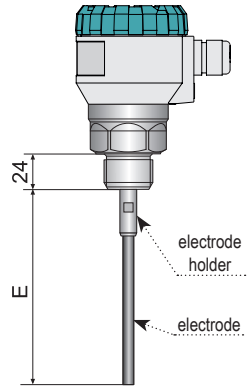

Fig. 27: Drawing of the level meter with size "E"
1. Create your own electrode as shown on Fig. 27 The length of the electrode must be about 7 mm shorter than the dimension "E" in figure 27. The material of the electrode is recommended to be used stainless steel type 1.4571 (AISI 316 Ti) or similar depending on the application.